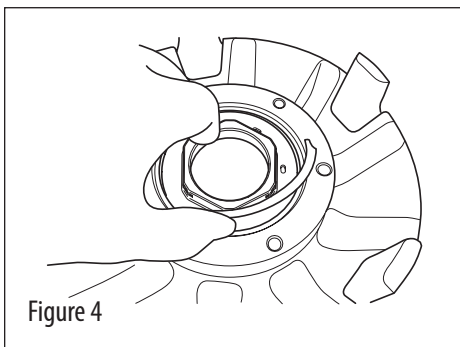

Figure 4
4. Install the spiral snap ring into the snap ring groove in the hub. Make sure that the snap ring is fully seated into the groove in the hub (Figures 4 and 5).